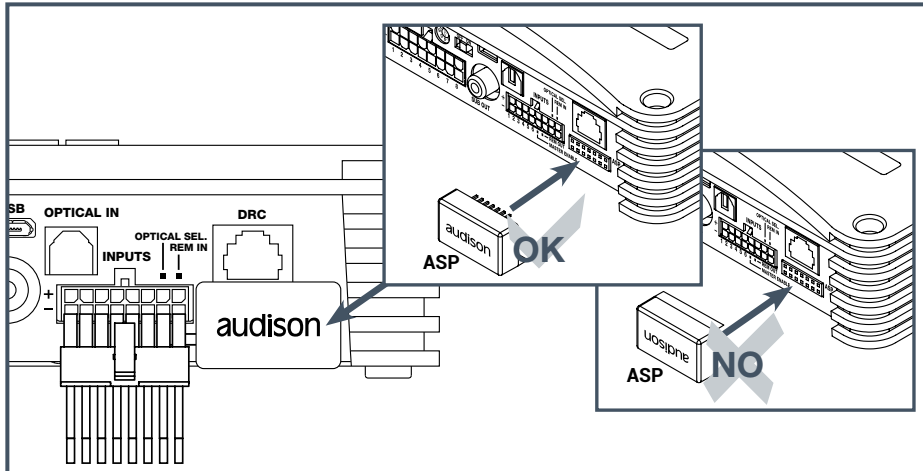

Fig. 33
12.1.1 Install the ASP module in the provided place (Fig. 33).